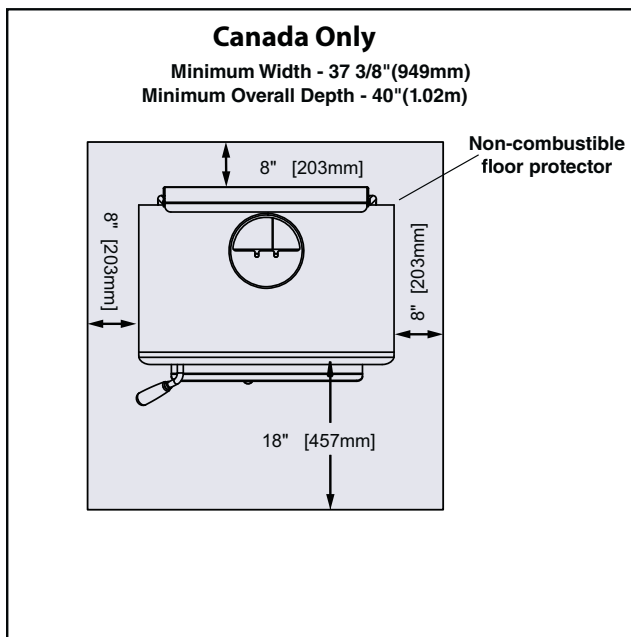
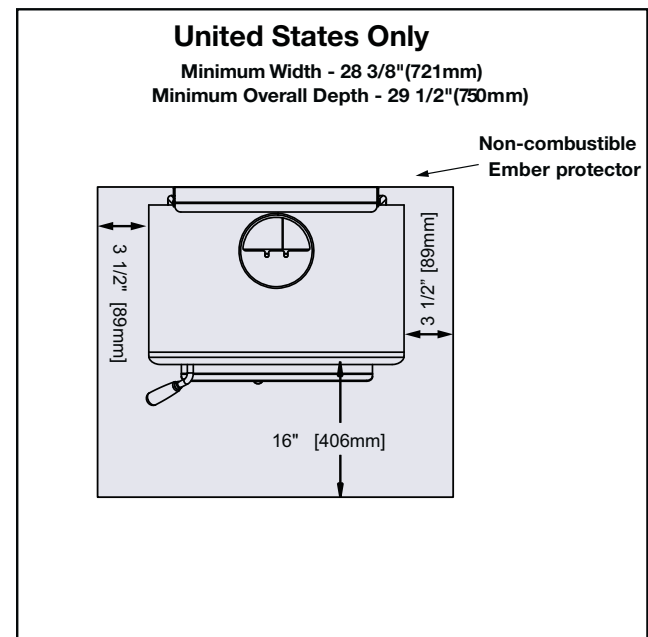

Figure 3: TN10 - CAN Floor protector.
Figure 4: TN10 - US Floor protector.
This heater may be installed using a single-wall connector (smoke pipe) as per local and National fire and Installation codes. See *Single wall Connector* in Figure 3. Clearances may be reduced with various heat shielding or insulating materials. Consult national fire codes and authorities for approval (U.S. -NFPA 211 or CAN. - CSA B365)
In Canada: 18" (457 mm) from the loading door on the firing side and 8" (203 mm) from the sides. See Figure 3, below.
In USA: 16" (406 mm) to the front of the firebox and 8" (203 mm) from the sides of the fuel loading door opening. See Figure 4, below. This protection is also required under the chimney connector and 2" (51 mm) beyond each side.
1. Position stove and floor protection (with hole for combustion air if required) in accordance with the clearances as stated on the label and in Figure 2., and Figure 3 or Figure 4.